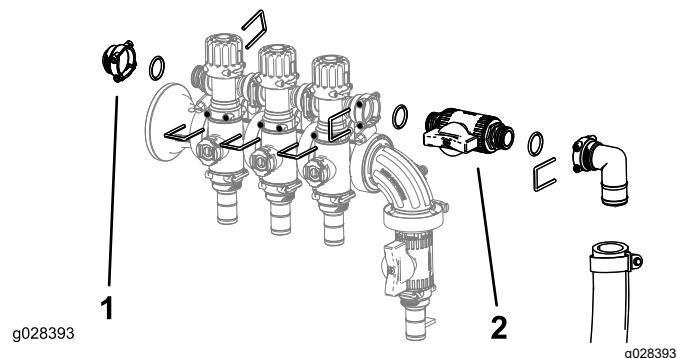

Figure 12
7. Install the bypass-valve cluster for the boom, the female cap, O-rings, shutoff valve, and fitting and hose assembly using the retainers previously removed as shown in Figure 12.